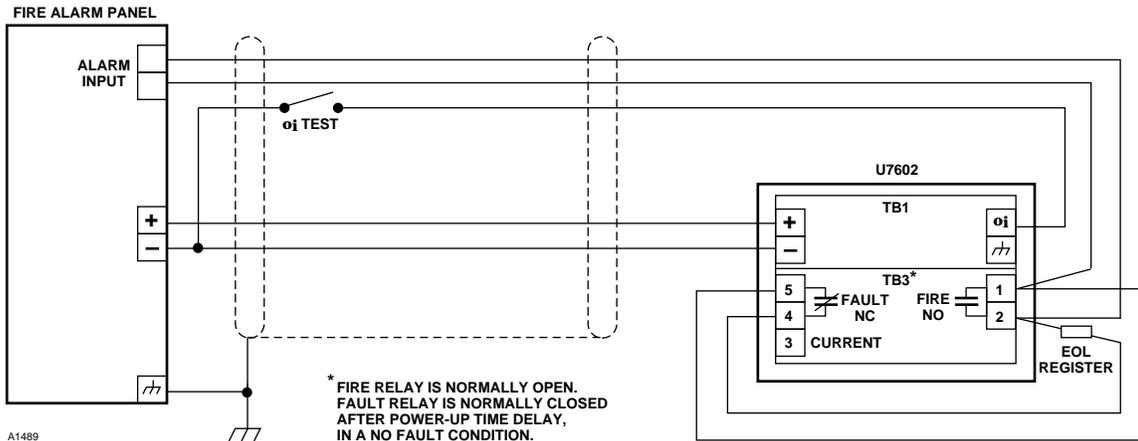
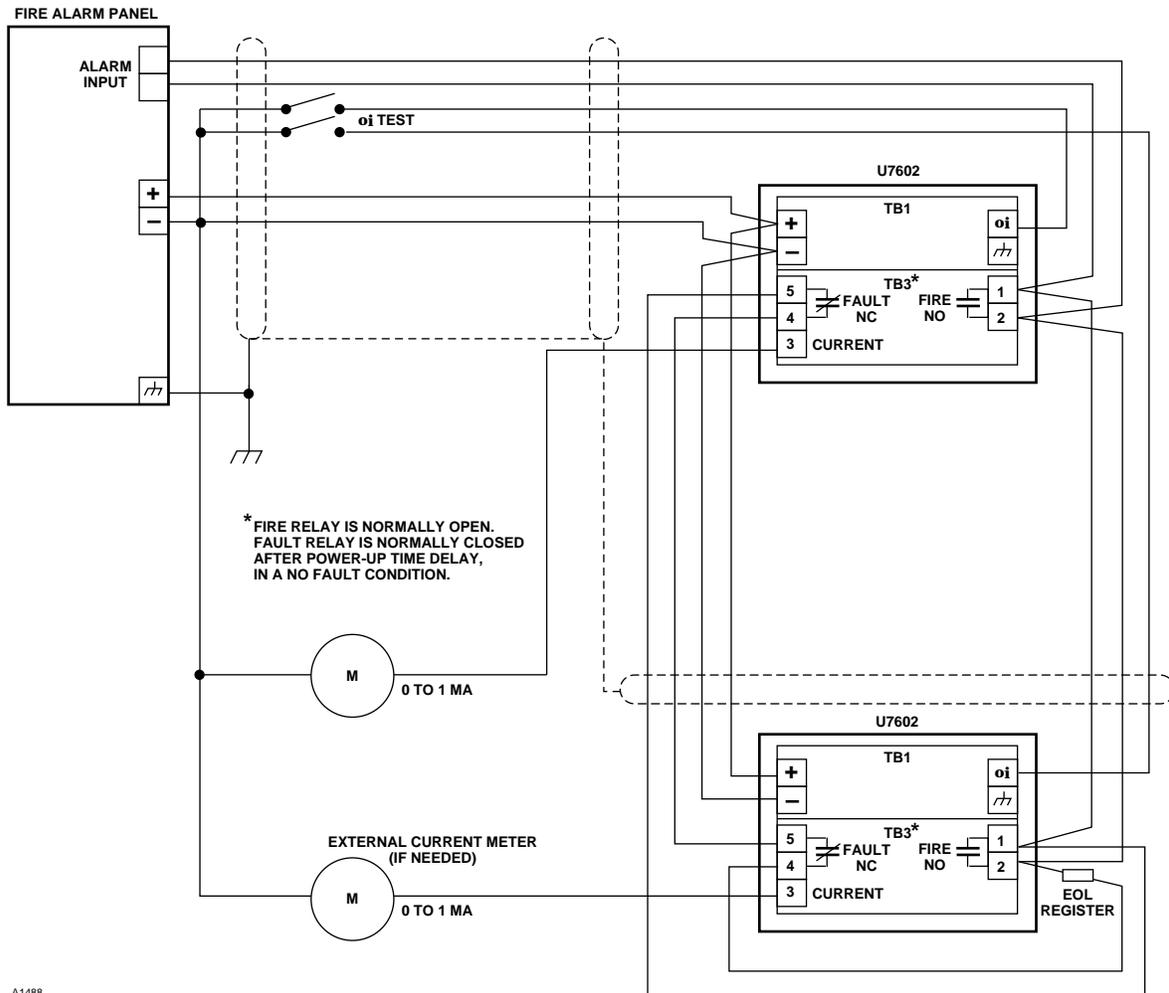
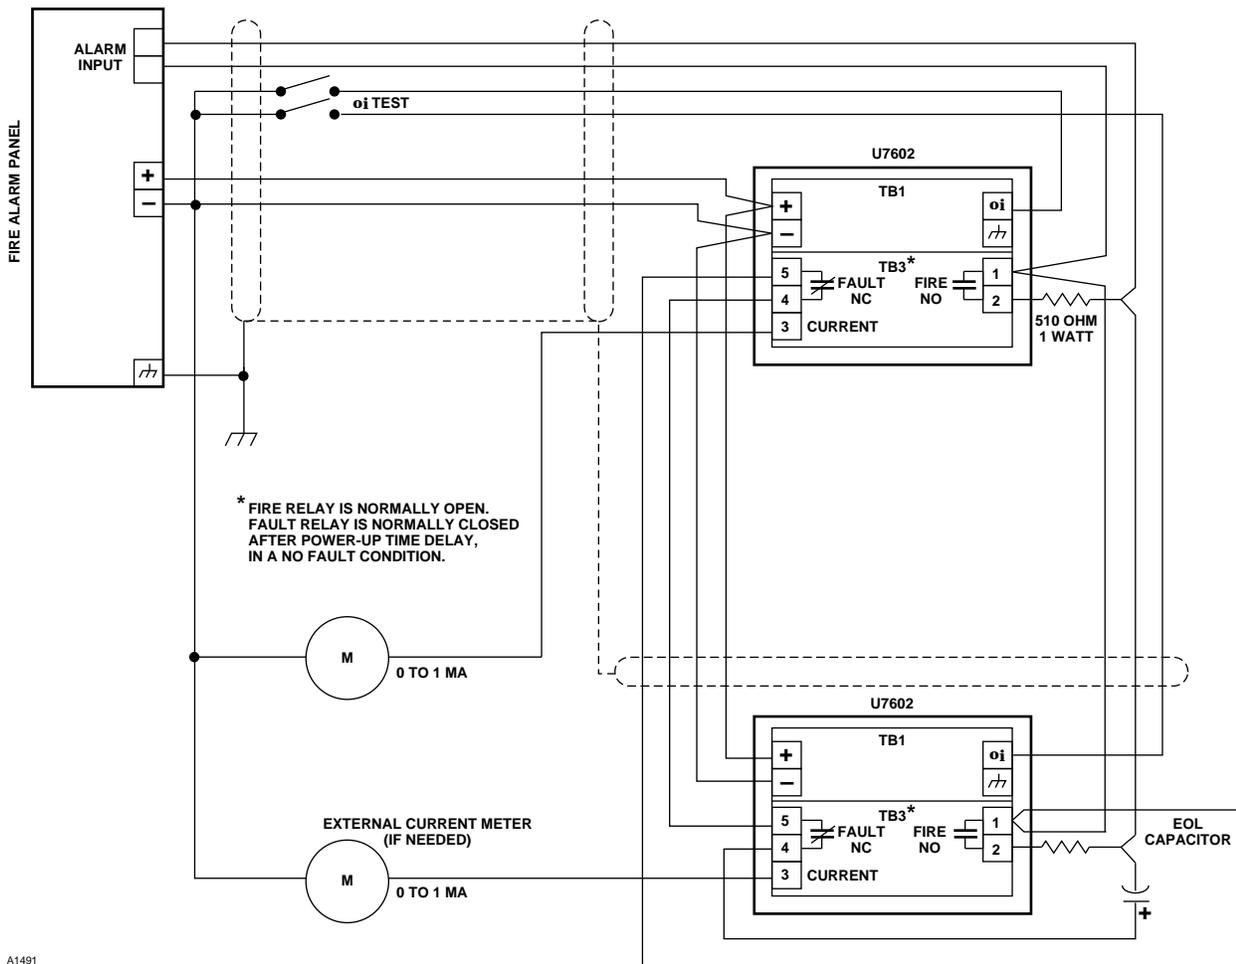

Figure 13—Typical Wiring Diagram
Figure 14—Typical Multiple Unit Configuration with End of Line Resistors
Figure 15—Typical Multiple Unit Configuration with End of Line Capacitors
After determining the correct positioning and density of the U7602(s), use the procedure below for mounting and wiring the unit(s). For reference, Figure 10 shows TB1 power and **oi** test connections, Figure 11 shows the TB3 configuration for standard relay and current outputs and Figure 12 shows the optional Form C relay and 4 to 20 ma current outputs. Figures 13 and 14 show typical U7602 wiring diagrams for systems that use end of line resistors. See Figure 15 for systems that use end of line capacitors.
4. Route the field wiring through the detector conduit entry. Refer to Figure 13 for wiring a single unit and Figure 14 for a multiple configuration using end of line resistors. Figure 15 shows a multiple configuration using end of line capacitors.
*Current limiting resistors must be used as shown in Figure 15 when using end of line capacitors. Failure to do so can result in the relay contact ratings being exceeded, and subsequent welded relay contacts.*